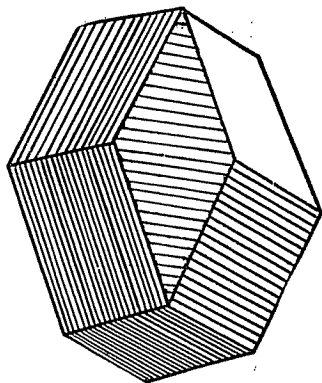
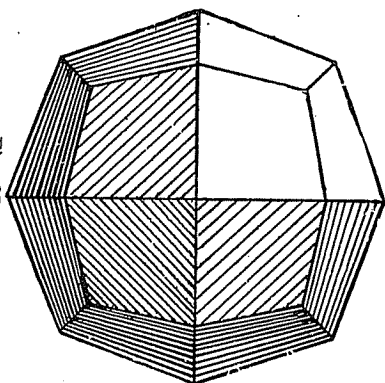

Fig. 36
Fig. 37
**Crystal System**—Usually as the rhombohedron (Fig. 36) and the trapezohedron (Fig. 37).